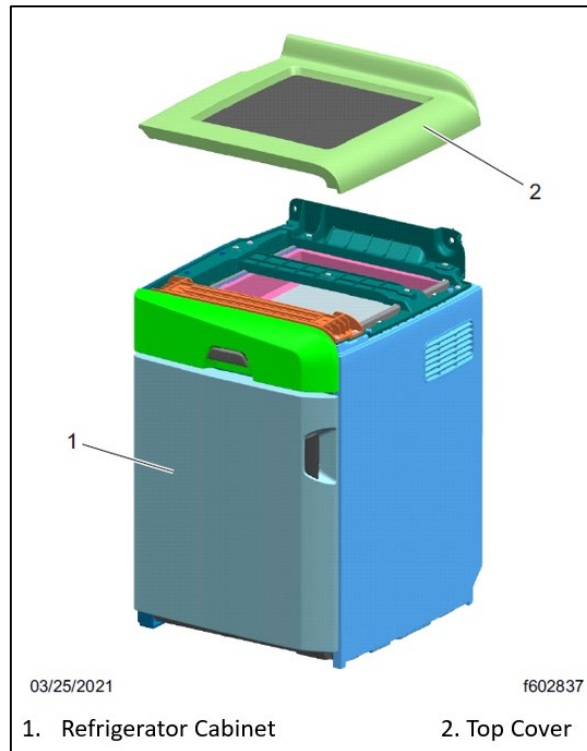

Fig. 35, Refrigerator Cabinet Top Cover
20.2. Install the refrigerator cabinet top cover. See Fig. 35.